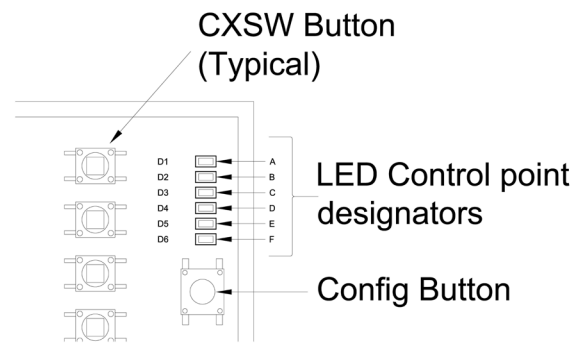

FIGURE 2
4. Gently remove button caps to have access to the config button and visually confirm LED status programming. See **Figure 2**.
5. Locate an array of 6 LEDs on the printed circuit board above the config button. While not physically labeled, these represent lines A - F beginning with A at the top. See **Figure 2**.